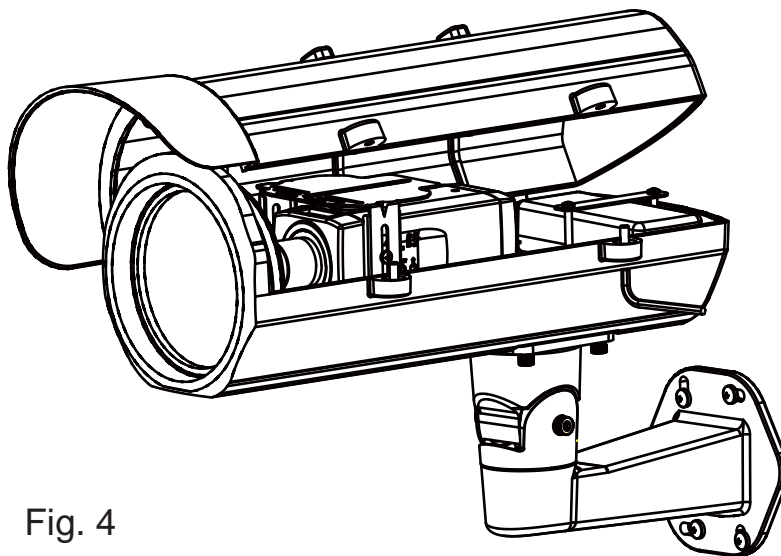

Fig. 4
- 3.2 Secondly, take out the housing and open the side cover with hexagon screw driver (Fig 4).